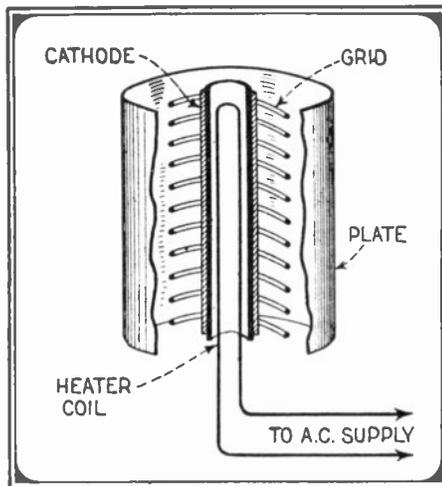

Fig. 206. This diagram shows in simplified form the internal construction of a new vacuum tube that operates on alternating current.
A. 1. We will answer all of your queries compositely. Our illustration in Fig. 206 shows in schematic form the disposition of the elements of one type of tube designed to operate on alternating current at a pressure of 6 volts, this current being supplied by a small step-down transformer. The current at a pressure of 6 volts heats the small heater coil indicated, whereupon the heat radiated through the insulating material imparts its warmth to the cathode or metal sleeve enclosing the insulating rod. This cathode gives off an electronic stream and the operation of the tube from this point onward is similar to that of any other type of tube. A grid and plate of usual design are included as shown. The one